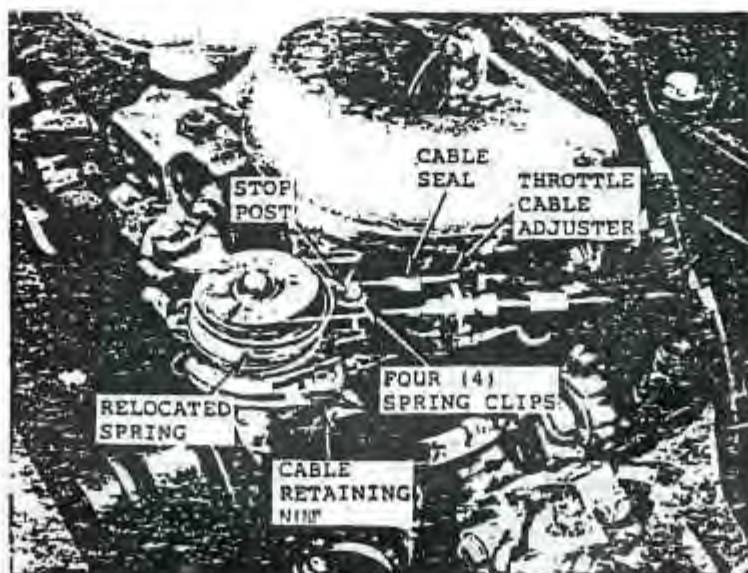

FIGURE 2
7. Pack the throttle cable threaded adjuster with Dow Corning Molykote #33 (medium weight) and reinstall the cable housing into its threaded adjuster (Figure 2).
9. Install the supplied seal (P/N 111183) on the throttle adjuster as shown in Figure 2.
10. Remove the outer throttle return spring. On cars equipped with automatic transmissions as illustrated in Figure 2, it will be necessary to remove "E" clip, bushing and plate.
Modify the outer return spring by taking the upper end of the spring and passing it over the top and under the first coil. (Figure 2)
11. Install the four (4) internal tooth spring clips supplied (P/N SP10882) to groove in return spring stop post, as shown in Figure 2.